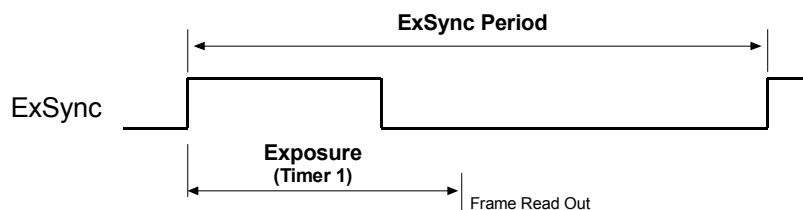

Figure 3-3: ExSync, Programmable Mode
- In **ExSync, programmable** mode, the rising edge of ExSync triggers exposure and charge accumulation for a pre-programmed period of time. The frame is read out and transferred at the end of the pre-programmed period. The falling edge of ExSync is irrelevant (see Figure 3-3). A parameter called "Timer 1" is used to set the length of the pre-programmed exposure period.